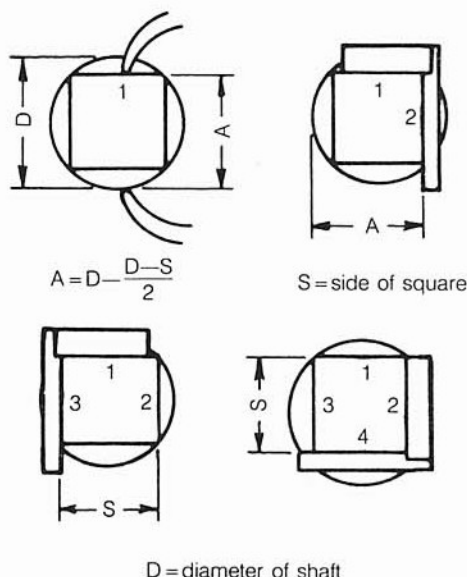

Figure 33 Steps in filing a square on a shaft
- 1 Mark out the square on the end of the shaft (Fig. 33).